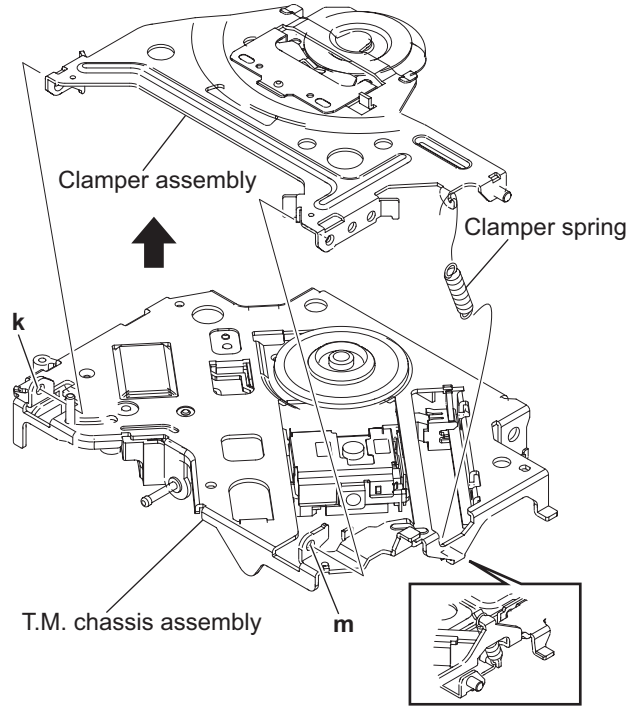

Fig.17
**3.2.9 Removing the clamper assembly (See Fig.17)**